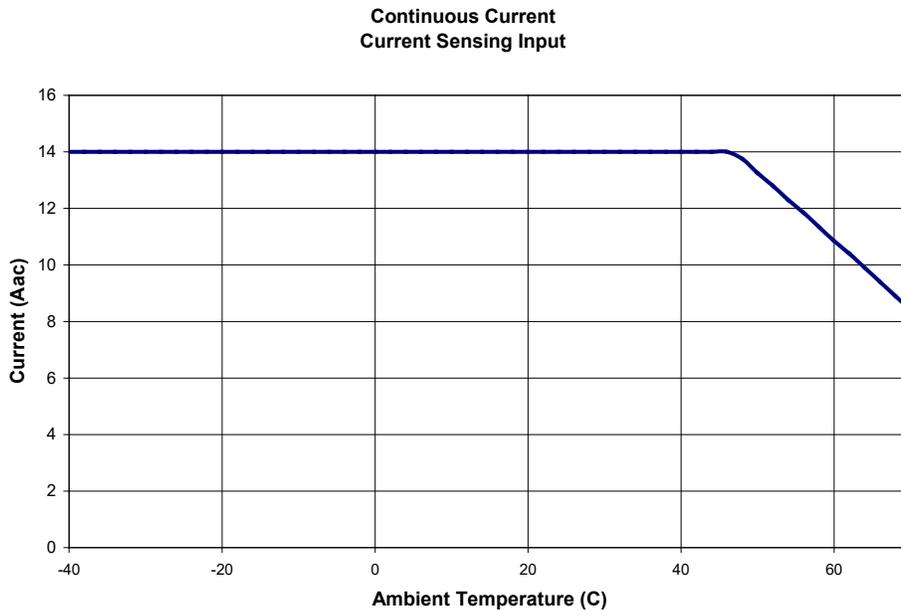

Figure 6-1. Current Sensing Input De-rating Curve
* Continuous rating is 14 Aac for temperatures up to 45°C. See Figure 6-1 for de-rating curve.